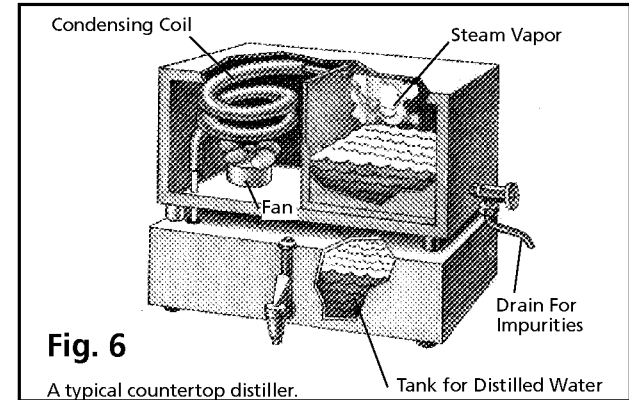

Fig. 6
**Distillation System.** A distillation water treatment system does not filter the water (Fig. 6). The unit boils the water. The steam is then condensed by a coil and the impurity-free water collects in a storage tank, where it is drawn off by the faucet. The distillation process is slow, taking up to 5 hours to process one gallon of water.